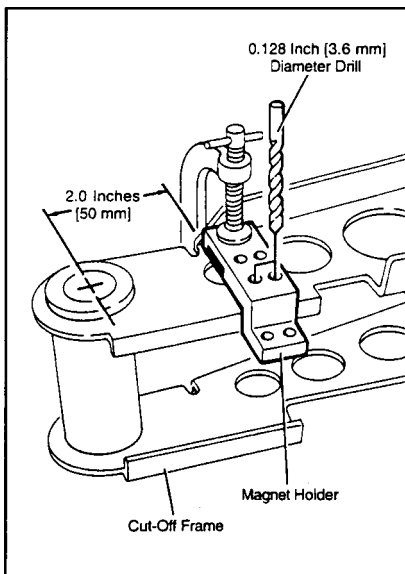

Figure 11
5. Locate and drill mounting holes for magnet holder in side of cut-off bracket as follows (refer to Figure 11):
- b. Drill two .128 inch [3.6 mm] holes in cut-off frame through the center set of holes in the magnet holder. **Be sure to use the holes closest to the 90° angle in the magnet holder for drilling guide.** See Figure 11. Remove clamp holding magnet holder and remove magnet holder. Deburr holes and vacuum or brush metal chips away from taping head.